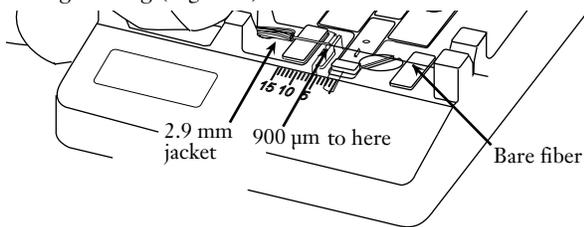

Figure 7
4.12 Place the fiber in the cleaver to give the desired cleave length as shown in Figure 7. Hold the fiber in place with your left thumb or forefinger- position the fiber so that its bow is placed downward to force the fiber to lay straight across the blade.
The bare fiber should extend across the base to the right fiber guide. Make sure that no aramid yarn is on the clamping pads during cleaving (Figure 7).